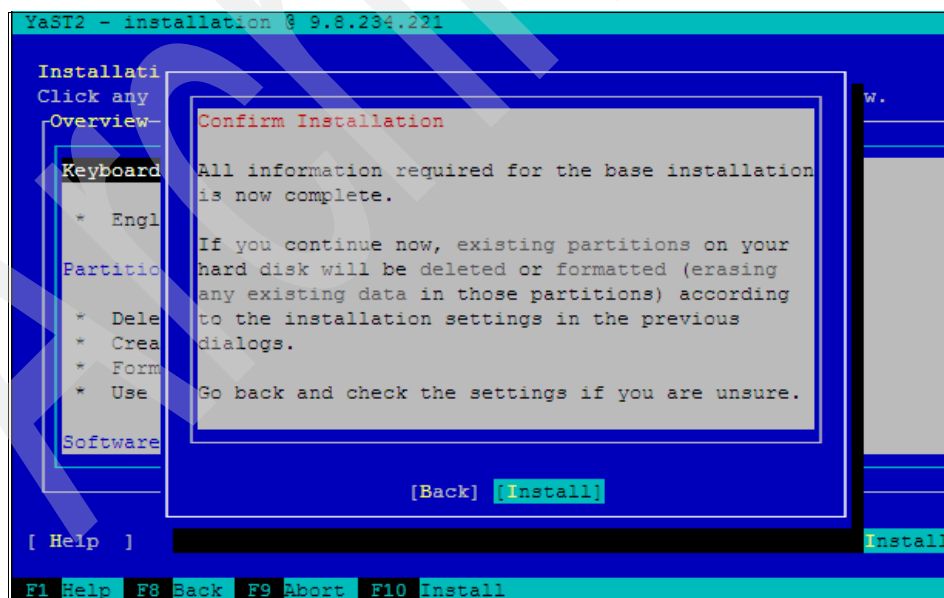

Figure 9-22 Confirm Installation
16. Select **[Install]** to start the installation, as shown in Figure 9-22.